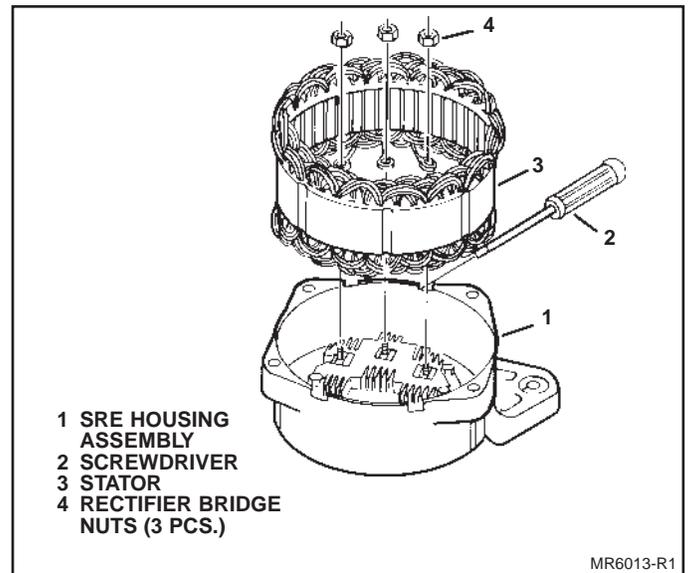

Figure 14. Removing Stator
5. Remove 3 rectifier bridge nuts to disconnect stator. Lift stator from SRE housing. If necessary, carefully pry stator away from SRE housing with screwdriver (Fig. 14).